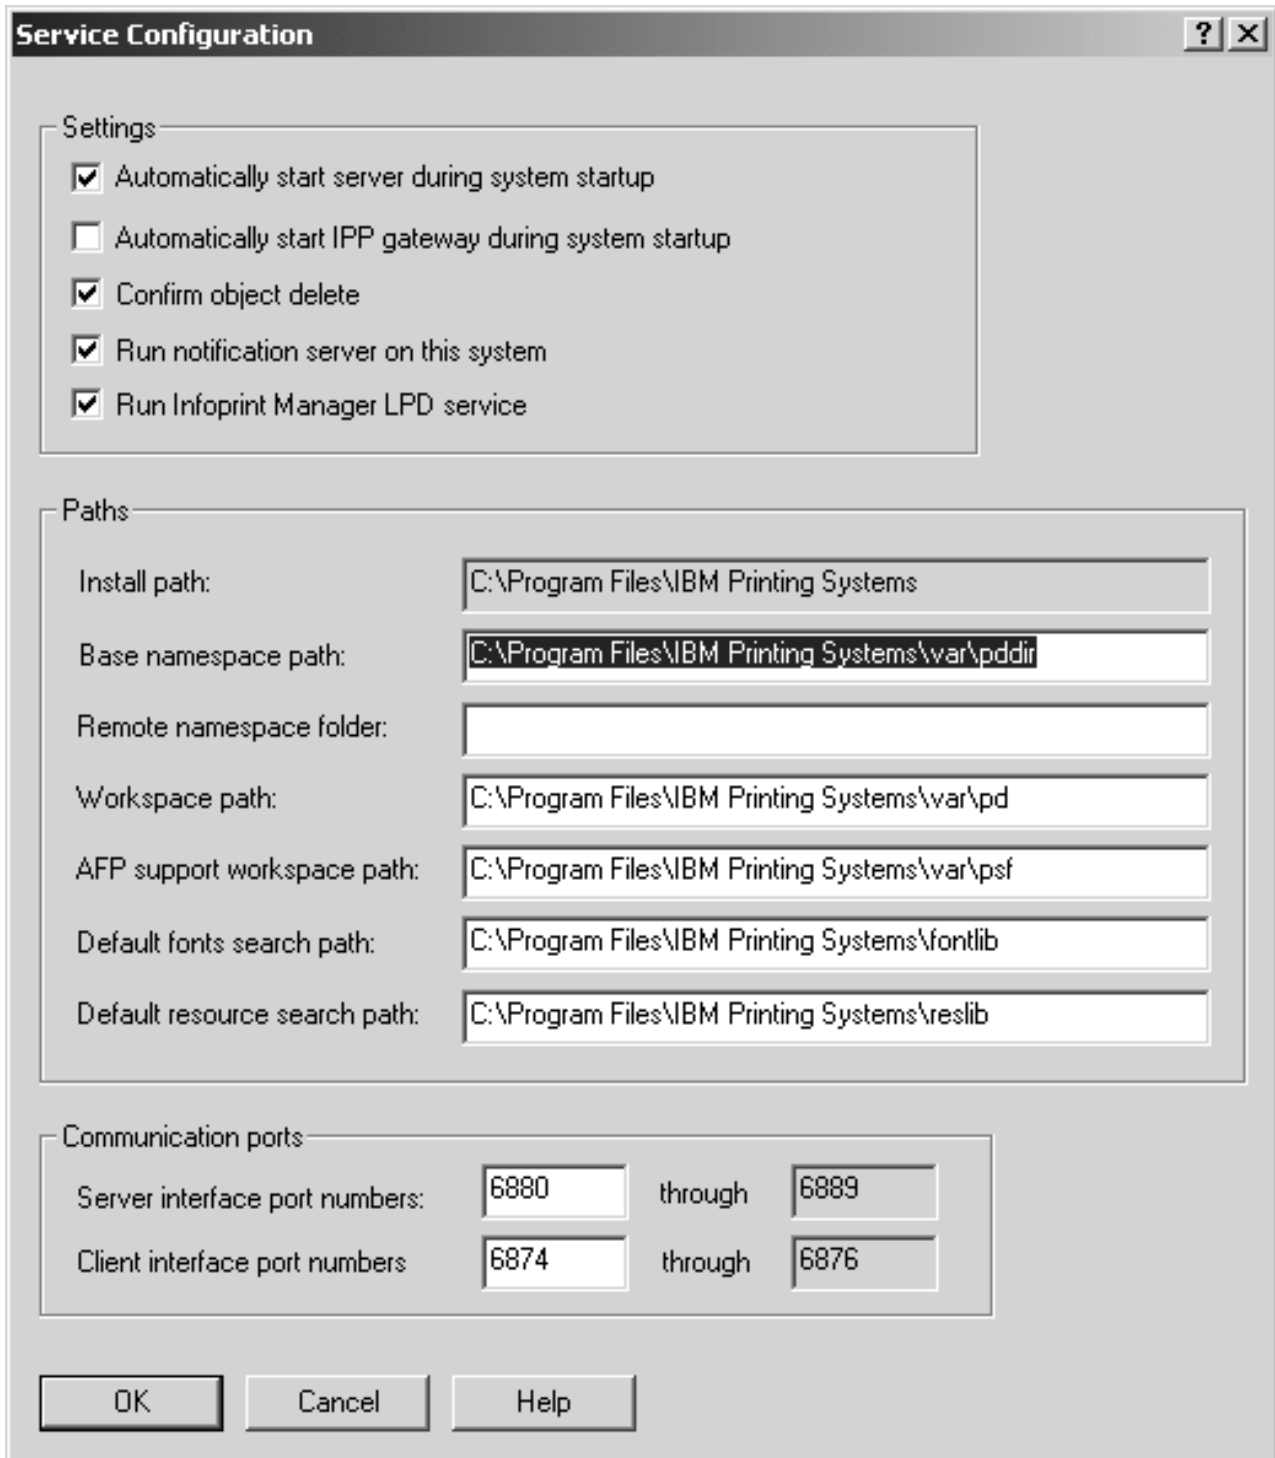

Figure 72. MMC Service Configuration window
4. From the Service Configuration window, ensure that the **Run InfoPrint Manager LPD service** check box has been checked (as shown in Figure 72 on page 168). Press **OK** to save this change.